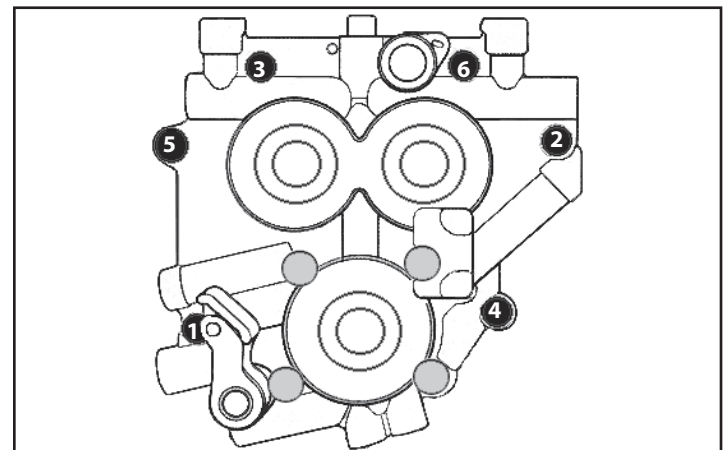

Figure 2
10. Gradually loosen and remove six support plate bolts according to sequence shown in **Figure 2, next page**.
8. Apply threadlocker (blue) to six support plate screws, install screws, and gradually tighten to 95 in-lbs. in sequence illustrated in **Figure 2 on page 7.**